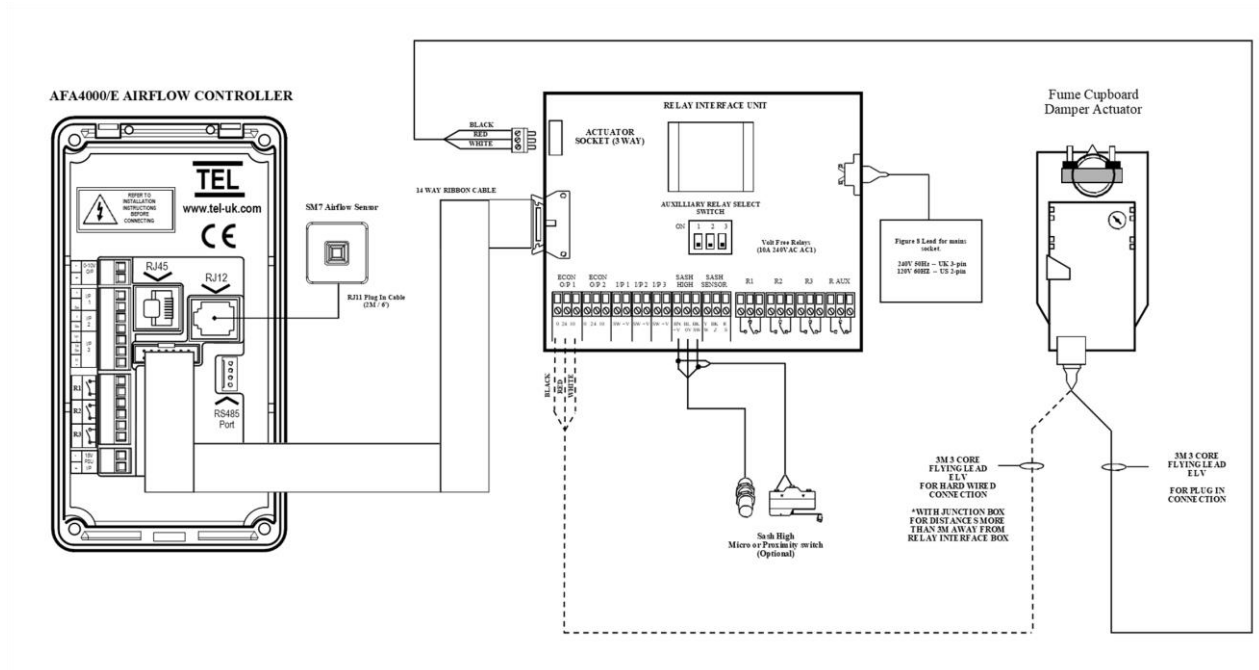

Figure 23: AFA4000/E damper control connections
3. For damper control, terminate the damper actuator cable into the ECON Output 1 terminals on the Econ Power Supply Unit. Use a 20 mm cable gland to secure the cable to the power supply box. Figure 23 shows the connections for damper control.